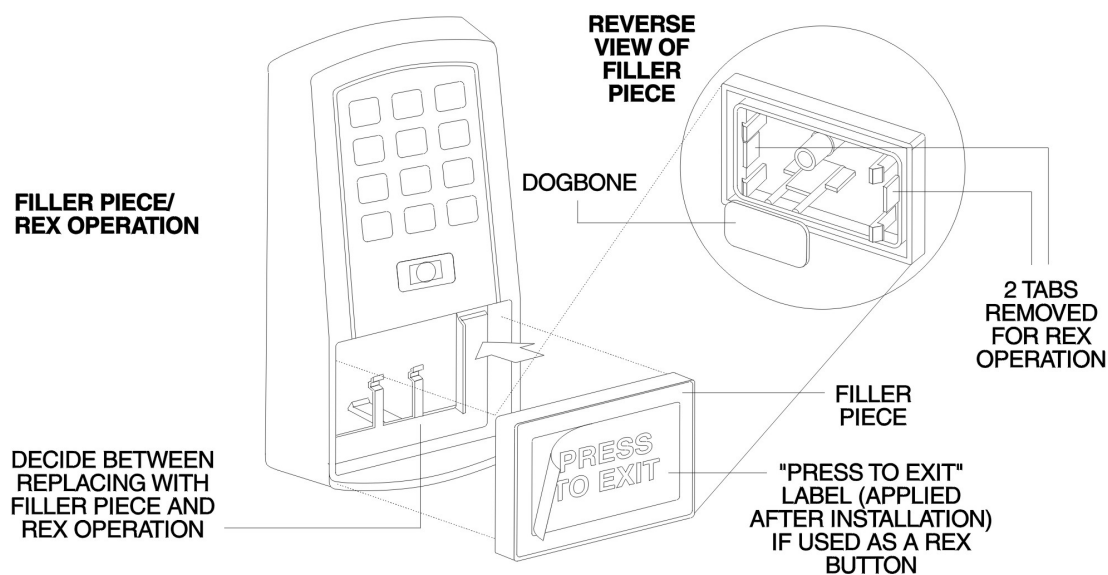

Figure 5: Performing a Secure Installation
- When handling the main printed circuit board, to guard against possible static discharges, touch a grounded object before touching the prox.pad unit. Remove the main printed circuit board by pressing the two spring tabs in the direction of the arrows as shown in Figure 5 on the next page. Be careful with the wires.
- Remove the antenna housing from the keypad/controller by pressing the labeled four secure tabs inward (see Figure 5) until the antenna housing pops out.
- If you elect to use the filler piece as a REX switch, return to the keypad/controller and break off two tabs on the filler piece as illustrated in Figure 5. The filler piece replaces the antenna on the front of the keypad/controller for secure installations. Refer to section 2.7.5d for programming the internal REX.